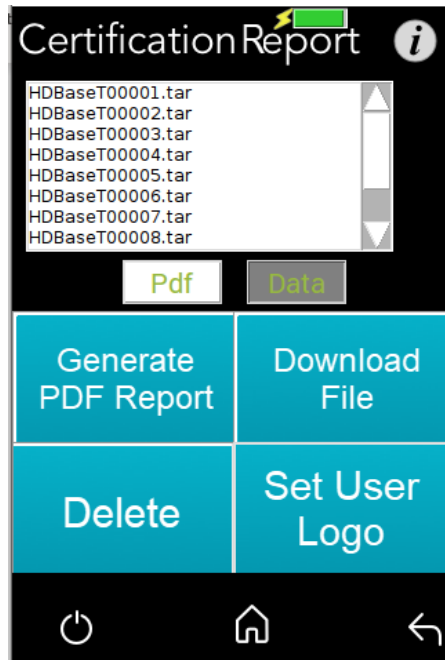

Figure 37: Certification Report Data File Options
4. Insert a USB memory stick into one of the USB ports of the MS-TestPro device. Select a report data file or files from the list as shown in Figure 37, and tap **Download** to save the file to the memory stick. Wait until the following message disappears: